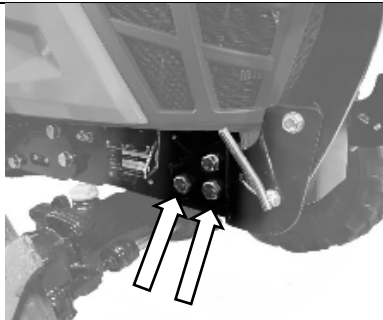

Figure 4B
4. On both sides of the tractor frame, remove and retain the two bottom bolts indicated in figure 4B.